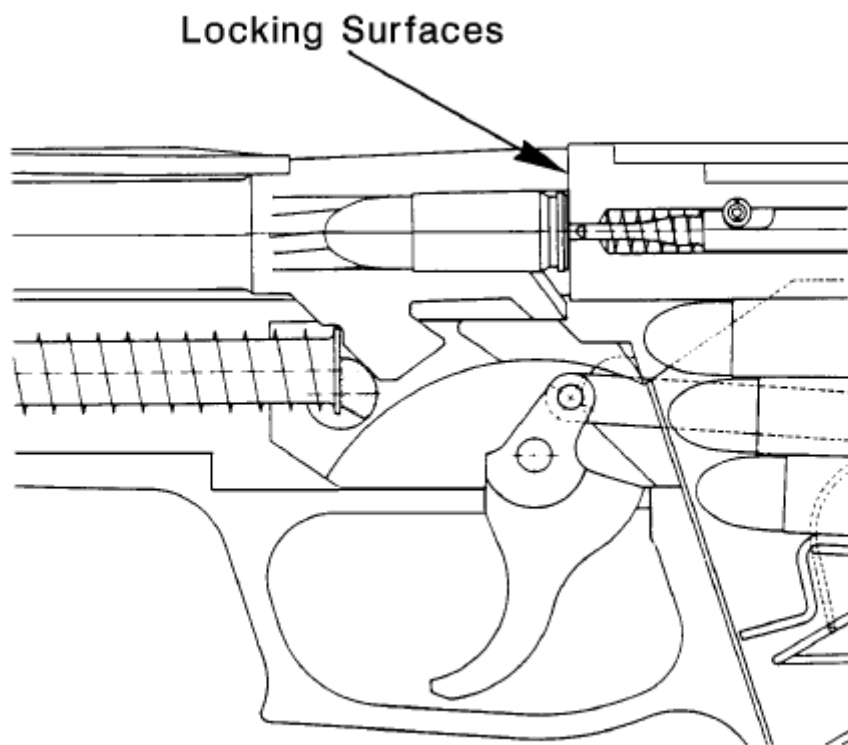

Figure 10a - Barrel Locked with the Slide
- e. Locking and Unlocking. (See Figures 10a and 10b) At the instant of firing, the weapon is locked; the barrel is seated on the upper step of the locking insert, and is locked into the slide. The blowback action forces the slide and barrel assembly rearward against the recoil spring. After recoiling about 1/8 inch, the barrel is cammed down and held by the locking insert. The slide continues rearward, extracting and ejecting the fired cartridge case while compressing the recoil spring. The compressed recoil spring forces the slide forward, stripping a round from the magazine, and chambering it. The barrel and slide lock together again approximately 1/8 inch before reaching firing position.